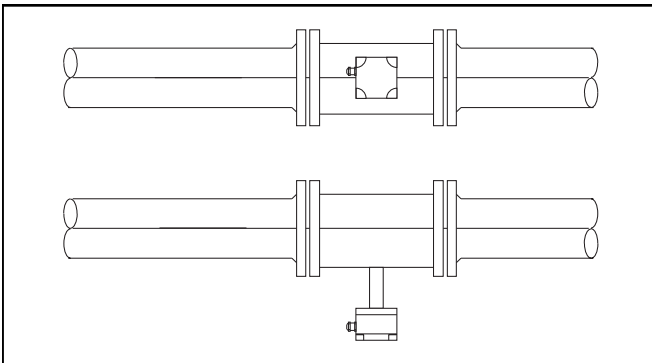

Fig. I-5 High Fluid Temperature Installations > 150 °C
- when metering at high temperatures, the flowmeter primary is installed so that the electronic section is positioned at the side and oriented downward (Fig. I-5).